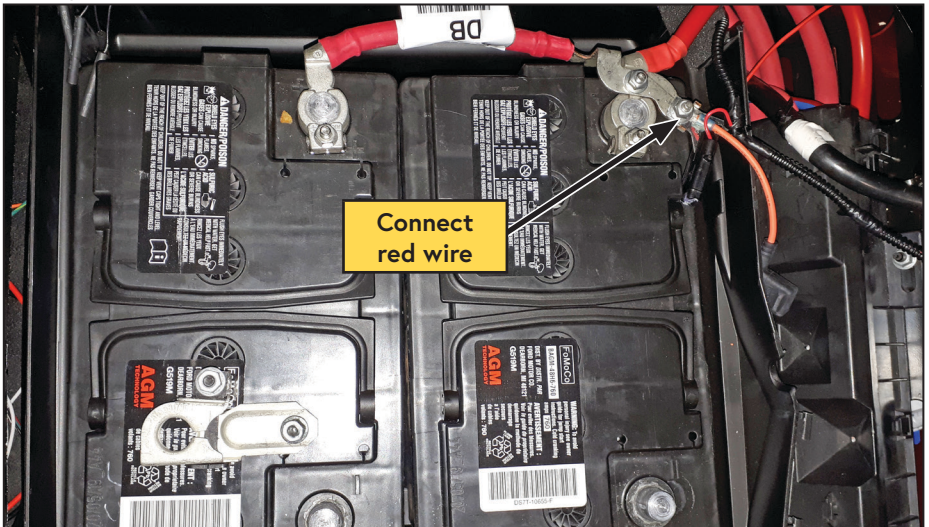

Figure 57 — Connect power
- Connect the other end of the fuse holder to the positive battery terminal. (Figure 57).